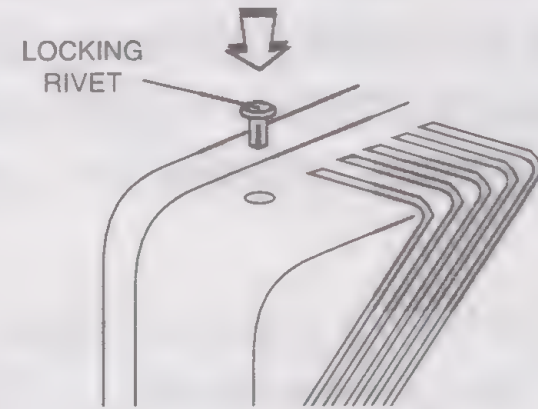

Figure 7
- (iii) Put the battery cover back on the unit. Insert the white locking rivet into the hole and push fully home. See figure 7.